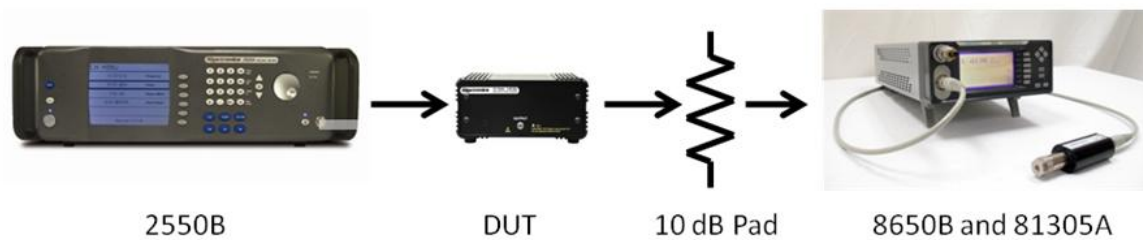

Figure 9: GT-1050A Performance Verification Setup
The test setup is shown in Figure 9. The procedure is shown in Table 12 and starts on page 16.
1.	Connect equipment as shown in Figure 9.